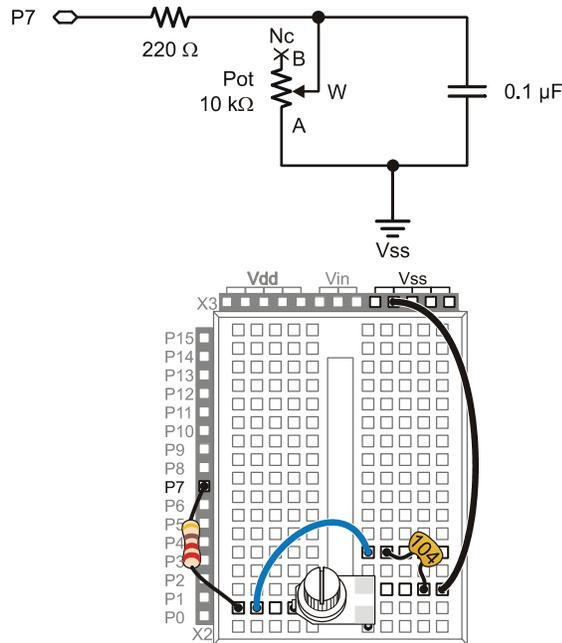
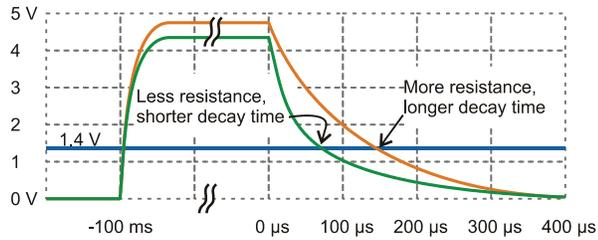

Figure 5-11
Figure 5-13
Figure 5-11 shows a schematic and wiring diagram for the fast RC-time circuit. This is the circuit that you will use to monitor the position of the potentiometer's knob with the help of the BASIC Stamp and a PBASIC program.
- ✓ Build the circuit shown in Figure 5-11.
Figure 5-12 shows how the ReadPotWithRcTime.bs2's **HIGH**, **PAUSE** and **RCTIME** commands interact with the circuit in Figure 5-11.
Figure 5-13 shows how the decay time changes with the potentiometer's resistance for the circuit in Figure 5-11. Each position of the potentiometer's knob sets it at a certain resistance. Turn it further one direction, and the resistance increases, and in the other direction, the resistance decreases. When the resistance is larger, the decay takes a longer time, and the **RCTIME** command stores a larger value in the **time** variable. When the resistance is smaller, the decay takes a shorter time, and the **RCTIME** command stores a